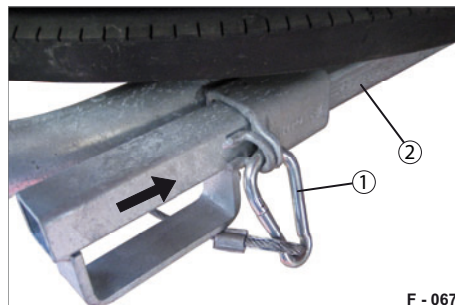

Fig. 88 Sliding lever secured
- ▶ Carefully raise the hook bolt with spare wheel upwards with the sliding lever (Fig. 88/2).
- ▶ Secure the sliding lever using the spring hook (Fig. 88/1).